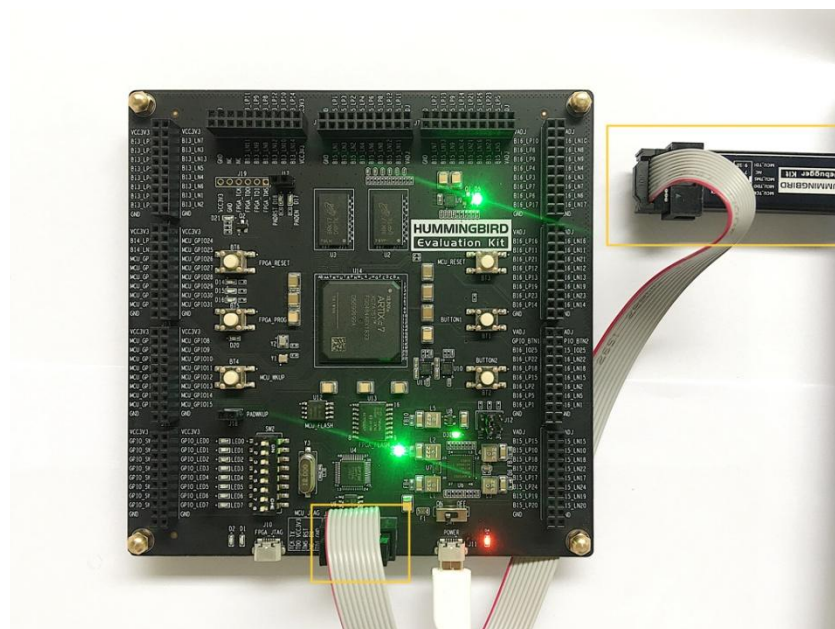

Figure 3-2 Connecting Hummingbird FPGA board and Debugger Kit with PC
- The SoC have JTAG pins and UART0 pins (pin-mux to GPIO_16 and GPIO_17 of the SoC), and the FPGA project mapped these pins to the board MCU_JTAG interface socket, as depicted in the Figure 3-1 mark [8]. The “Hummingbird Debugger Kit” can be connected to this socket, as depicted in Figure 3-2, and then be used to debug the RISC-V core (burned inside FPGA).